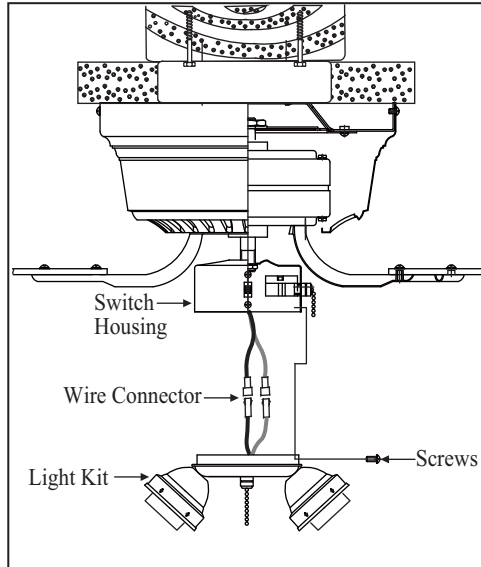

Figure 12
2. Carefully push all wires back into the switch housing. Attach the light kit fitter by aligning its keyhole slots with the three screw holes and the reverse switch on the side of the switch housing. Tighten the three screws securely to prevent the light kit from vibrating loose. (Fig. 12)